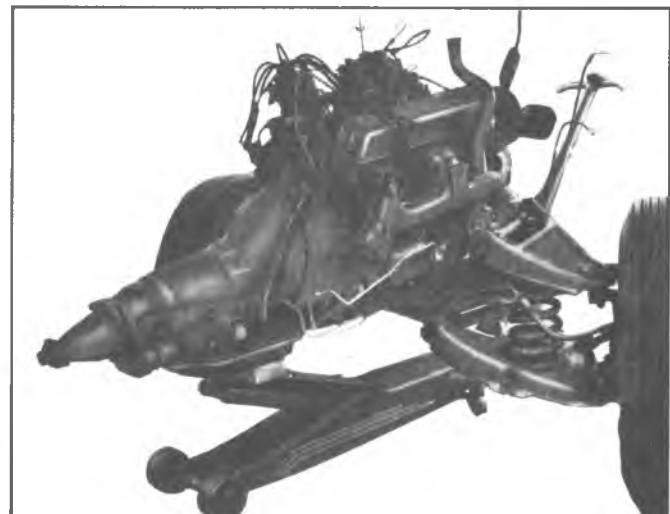

Fig. 5V—Floor Jack Location Under Transmission
22. Position floor jack under vehicle so that jack pad is aligned under transmission and, using a block of wood to protect transmission, support transmission with jack (Fig. 5V).